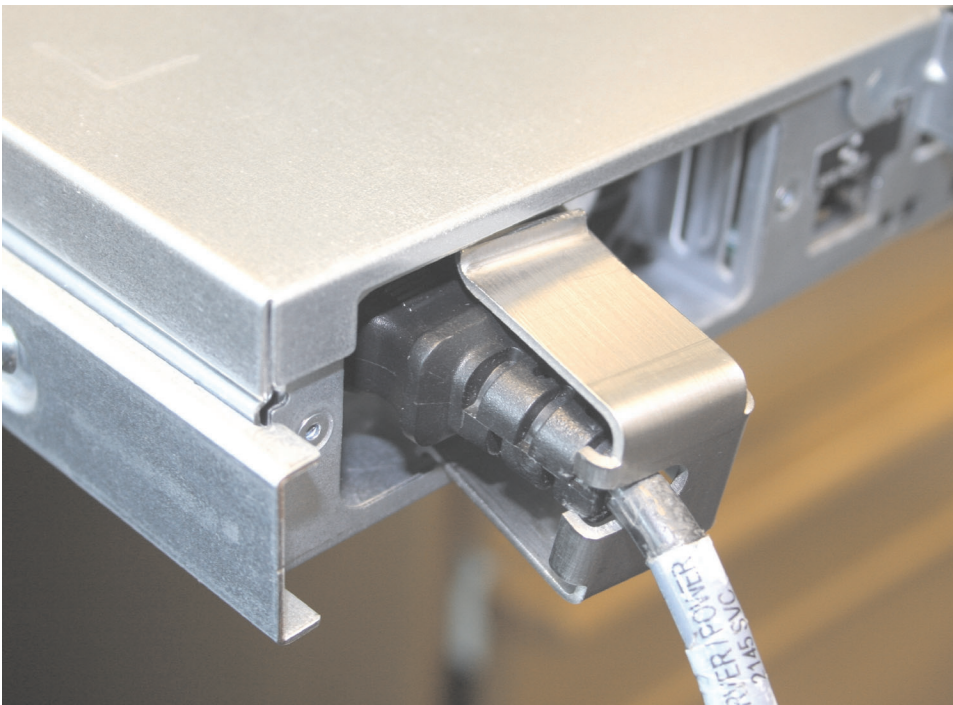

Figure 27. Installing the SAN Volume Controller 2145-8A4 cable retention bracket
5. Place the bottom lip of the retention bracket in the node chassis as shown in Figure 27. Turn the bracket at a slight angle, squeeze the top and bottom together, and position the top lip in place behind the chassis backplane.